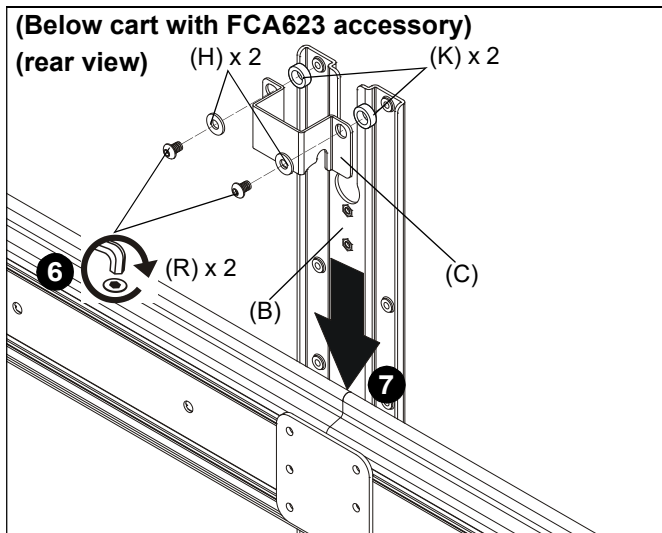

Figure 9
6. Use two 1/4-20 x 7/16" button head cap screws (R), two large washers (H) and two 3/5" spacers (K) to secure shelf bracket (C) to main bracket (B). (See Figure 9)
7. Slide main bracket (B) onto front of cart/ceiling mount head assembly until shelf bracket (C) rests on top of head assembly. (See Figure 9)